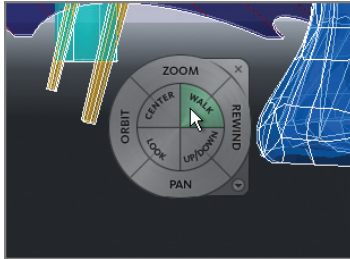

FIGURE 16.19 Full navigation SteeringWheel interface
2. Select the SteeringWheel tool in the Navigation bar. The full navigation wheel appears in the drawing canvas in close proximity to the cursor (see Figure 16.19).